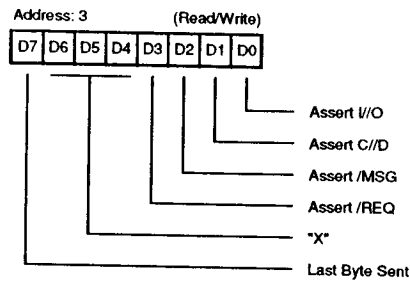

Figure 11. Target Command Register
**Bit 2. Monitor Busy.** The Monitor Busy bit, when True (1), causes an interrupt to be generated for an unexpected loss of /BSY. When the interrupt is generated due to loss of /BSY, the lower six bits of the Initiator Command Register are reset (0) and all signals are removed from the SCSI Bus.
**Bit 3. Enable/EOP interrupt.** The enable /EOP interrupt, when set (1), causes an interrupt to occur when the /EOP (End of Process) signal is received from the DMA controller logic.
**Bit 4. Enable Parity Interrupt.** The Enable Parity Interrupt bit, when set (1), will cause an interrupt (IRQ) to occur if a parity error is detected. A parity interrupt will only be generated if the Enable Parity Checking bit (bit 5) is also enabled (1).
**Bit 5. Enable Parity Checking.** The Enable Parity Checking bit determines whether parity errors are ignored or saved in the parity error latch. If this bit is reset (0), parity is ignored. Conversely, if this bit is set (1), parity errors are saved.
**Bit 6. Targetmode.** The Targetmode bit allows the SCSI to operate as either a SCSI Bus Initiator, bit reset (0), or as a SCSI Bus Target device, bit set (1). If the signals /ATN and /ACK are to be asserted on the SCSI Bus, the Targetmode bit must be reset (0). If the signals C//D, I//O, /MSG, and /REQ are to be asserted on the SCSI Bus, the Targetmode bit must be set (1).
**Target Command Register. Address 3(Read/Write).** When connected as a target device, the Target Command Register (Figure 11) allows the CPU to control the SCSI Bus Information Transfer phase and/or to assert /REQ by writing this register. The Targetmode bit (Mode Register, bit 6) must be True (1) for bus assertion to occur. The SCSI Bus phases are described in Table 2.